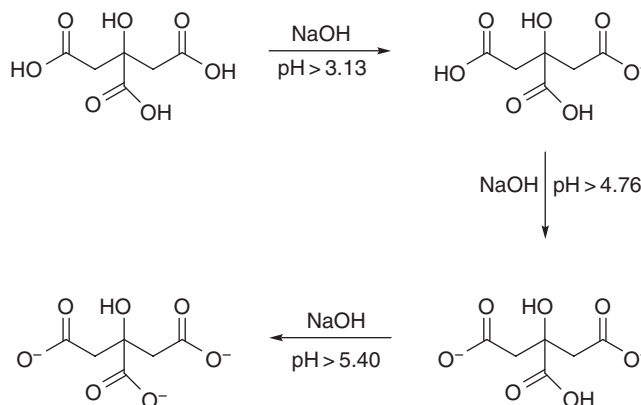

Figure 3. Citric acid has three ionizable protons.
- Look at the structure for citric acid (see Figure 3). Various soda drinks will have citric acid and sodium citrate as two of their ingredients.